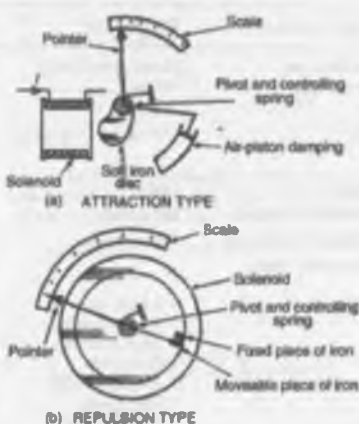

Figure 10.2
- An attraction type of moving-iron instrument** is shown diagrammatically in Fig. 10.2(a). When
- In the repulsion type moving-iron instrument** shown diagrammatically in Fig. 10.2(b), two pieces of iron are placed inside the solenoid, one being fixed, and the other attached to the spindle carrying the pointer. When current passes through the solenoid, the two pieces of iron are magnetized in the same direction and therefore repel each other. The pointer thus moves across the scale. The force moving the pointer is, in each type, proportional to I^2 and because of this the direction of current does not matter. The moving-iron instrument can be used on d.c. or a.c.; the scale, however, is non-linear.